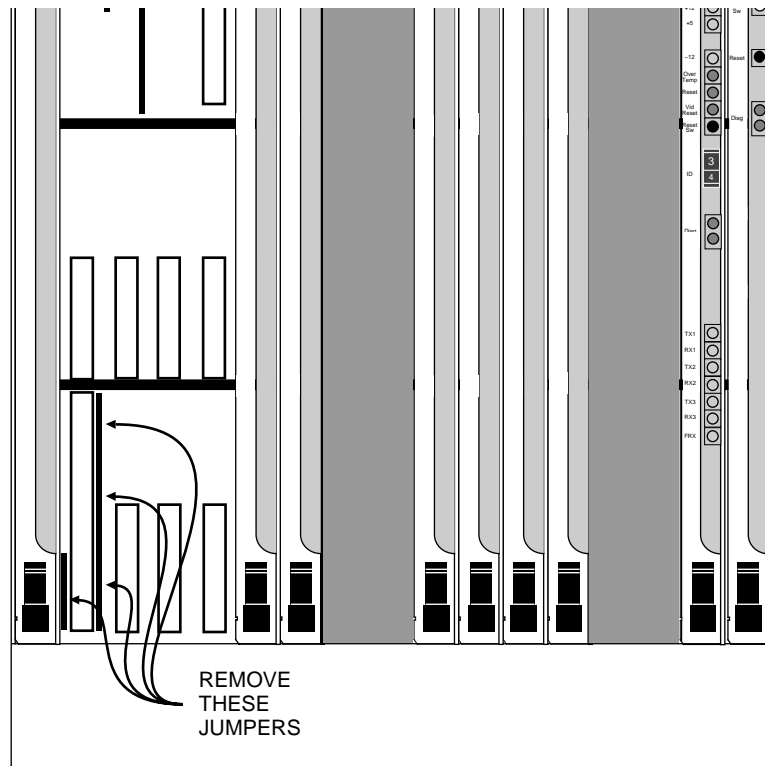

Figure 2-25. Input Recursive Jumpers
1. Power off the frame, then open the door and locate the mother board. Several jumpers reside near the bottom connector of slot 2 (Figure 2-25). These jumpers are in blocks of 10 and there are three blocks to the right of the connector and one block to the left of the connector. All of these jumpers must be removed. It may be necessary to remove other modules and use an angled prying tool to remove the jumpers. Save these jumpers in case you want to run the system without the Input Recursive module.